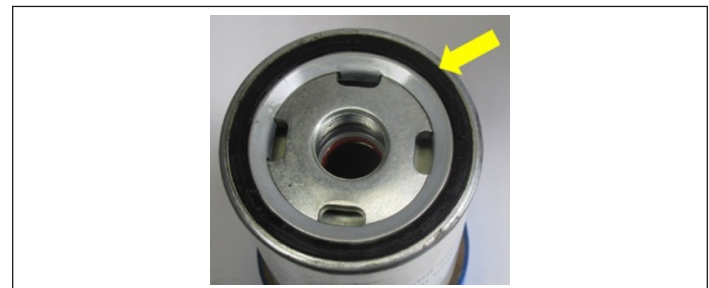

Figure 7 – Lubricate O-ring
4. Lubricate the o-ring of the new cartridge and hand tighten the new cartridge, adding an extra quarter turn. See Figure 7.